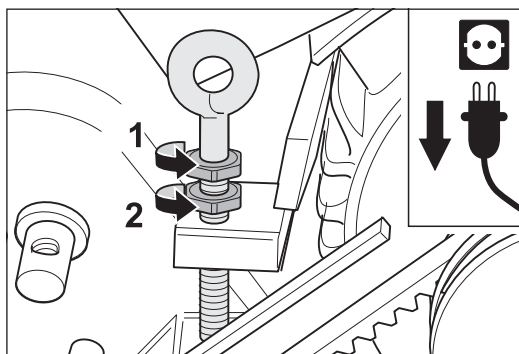

Fig. 108 Loosen the two nuts at the eye bolt at the motor.
- 3 Loosen the two nuts at the eye bolt at the motor (fig. 108) and turn them upwards.